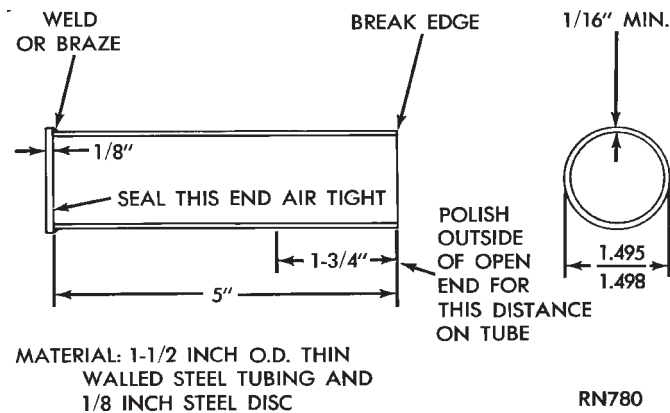
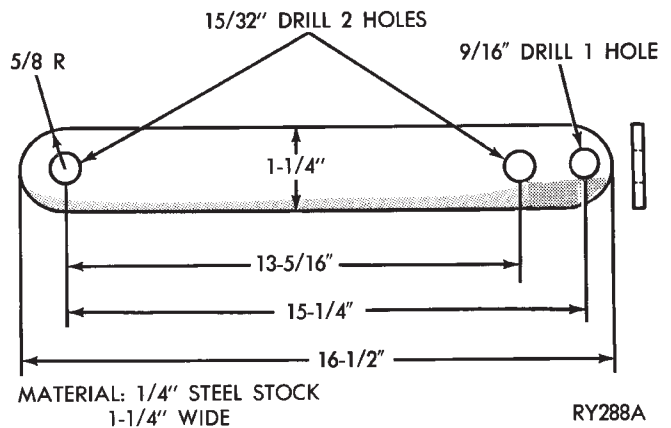

Fig. 6 Torque Converter Hub Seal Cup
Fig. 7 Hub Seal Cup Retaining Strap
Fabricate equipment needed for test as shown in figures 6 and 7.
(1) Install a dipstick bore plug and plug oil cooler line fitting (lower fitting).
(2) With rotary motion, install converter hub seal cup over input shaft, and through the converter hub seal until the cup bottoms against the pump gear lugs. Before use, inspect hub seal cup (Fig. 6) for nicks or burrs that could damage seal. Secure with cup retainer strap (Fig. 7) using starter upper hole and opposite bracket hole.
(3) Attach and clamp hose from nozzle of Tool C-4080 to the upper cooler line fitting position in case.